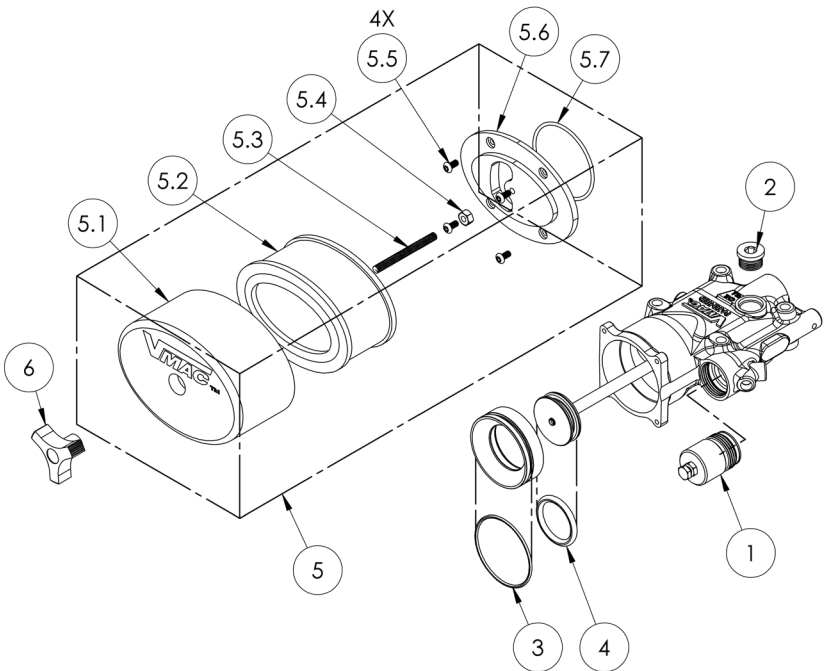

Figure 78 — Inlet Valve Sub Components
3. Inlet Valve Sub Components, 9200634 (Figure 78)